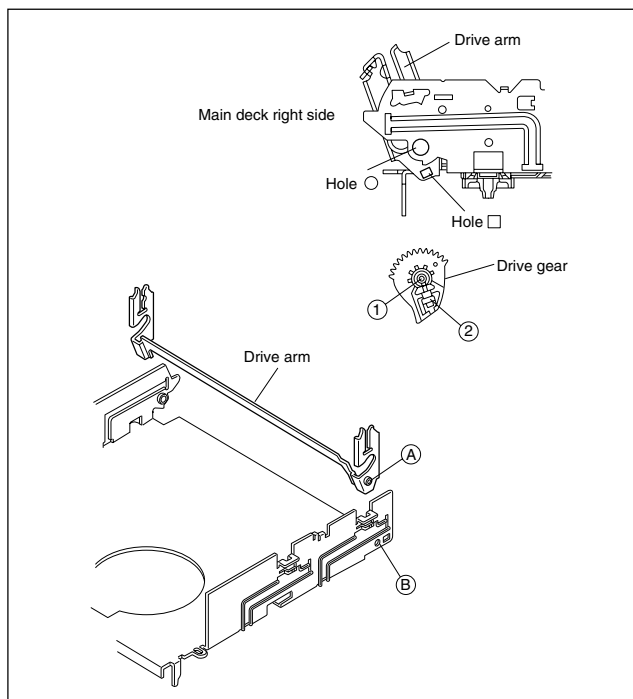

Fig. 2-2-3f
- (1) Insert the section (A) of the drive arm into the section (B) of the main deck.
- (2) Insert the section ① of the drive gear into the round hole, and the section ② into the square hole on the drive arm. (See Fig.2-2-3f.)